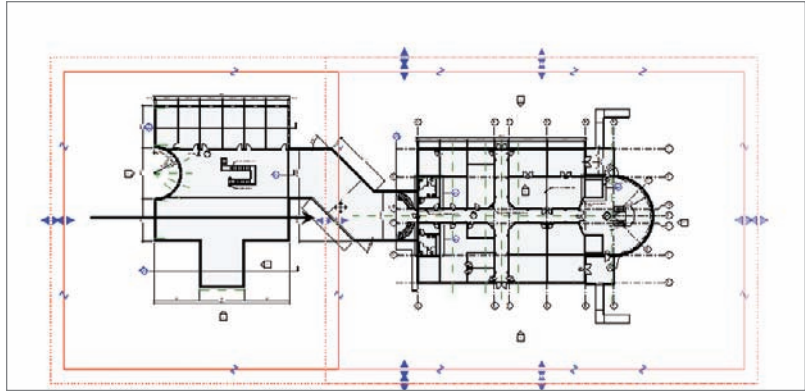

FIGURE 13.4 Dragging the crop region to the right
6. Drag the left side of the region to the right, as shown in Figure 13.4.